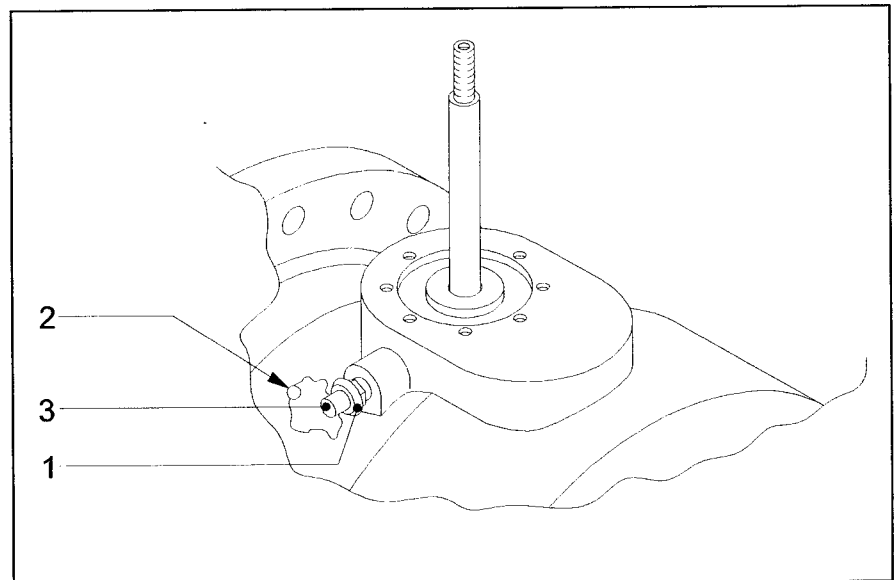

Fig. 6.1 Checking the pressure relief valve
- 4) Check if liquid, gas or grease is leaking from the pressure relief valve (see 1, fig. 6.1). If liquid, gas or grease is leaking from the pressure relief valve, then a piston rod sealing is broken. Replacing this sealing is a specialist' job and must only be carried out by a Mokveld Valves BV service engineer or by service personnel trained by Mokveld.
**Make sure that the valve and pipeline are completely de-pressurised. Check if the lead seal of the pressure relief valve is in place (see fig 6.1). This means that the pressure relief valve is not closed.**